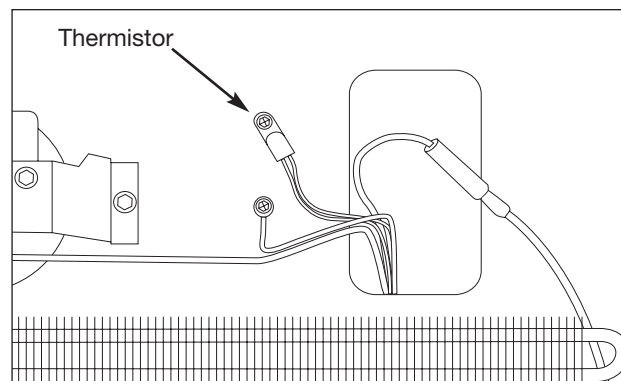

Figure 5-21. Defrost Thermostat Removal
2. Extract the phillips screw securing the thermistor to the back wall. (See Figure 5-21)